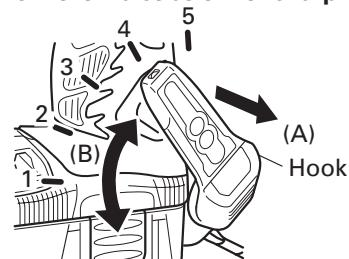

Fig. 7
(1) Operating the hook
- Pull out the hook toward you in the direction of arrow (A) and turn in the direction of arrow (B). (Fig. 7)